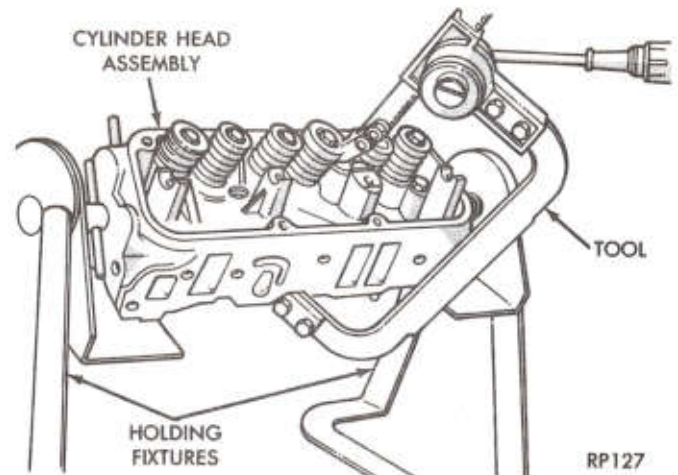

Fig. 13—Compress Valve Springs with Tool C-3422A
(1) With cylinder head removed, compress valve springs using Tool C-3422-A, as shown in (Fig. 13).
(2) Remove valve retaining locks, valve spring retainers, valve stem cup seals and valve springs.
(3) Before removing valves, **remove any burrs from**